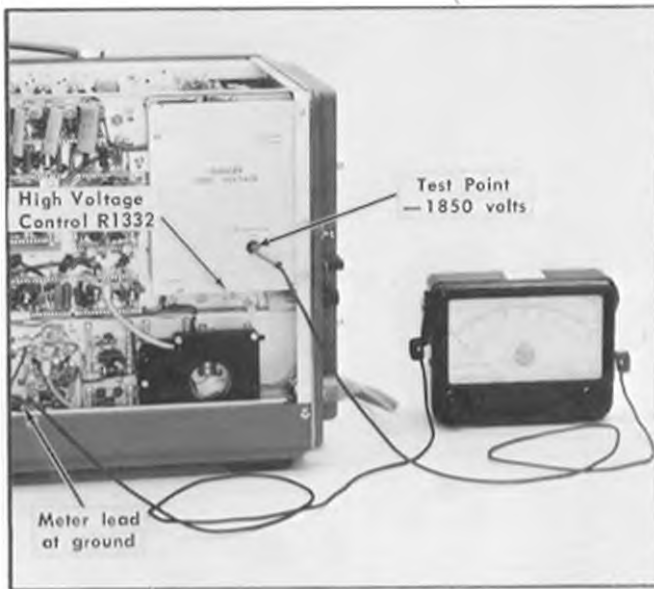

Fig. 6-10. Test setup for adjusting high voltage—Lower Beam.
- a. Set the DC voltmeter (item 9 of Recommended Equipment) to the high voltage range.
- b. Connect the meter leads from the high voltage test point to chassis ground, as shown in Fig. 6-10.
- d. Adjust High Voltage control R1332 for a meter reading of —1850 volts. Fig. 6-10 shows the control location.